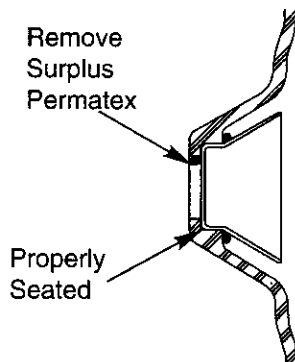

Figure 17
- D. Clean out any surplus Permatex from insert cavity where new seal will be located. See Figure 17.